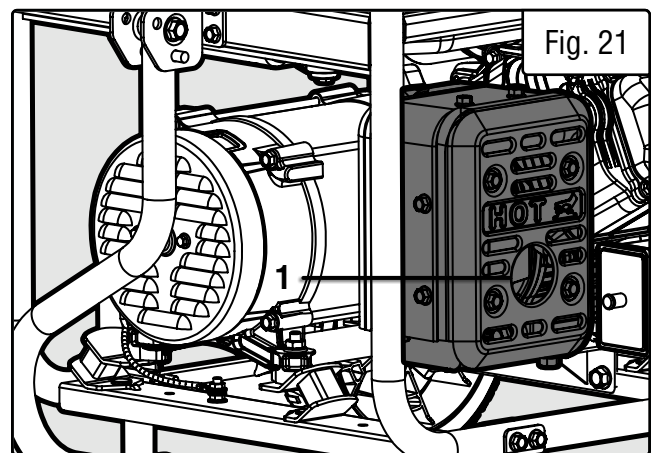

Fig. 21
1. Remove the two Phillips-head screws that secure the spark arrestor to the muffler (Fig. 21 - 1).